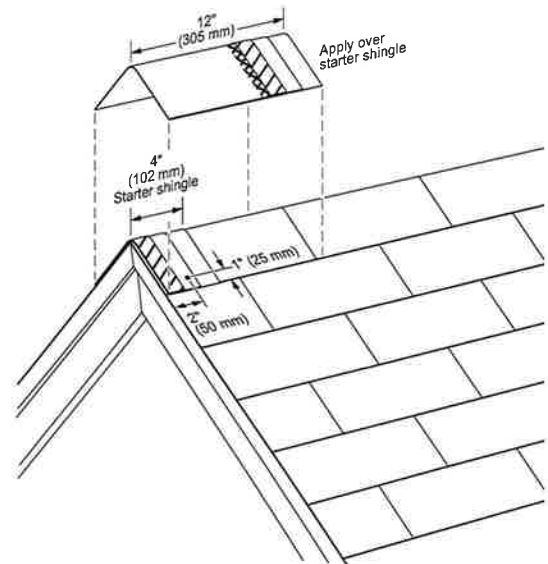
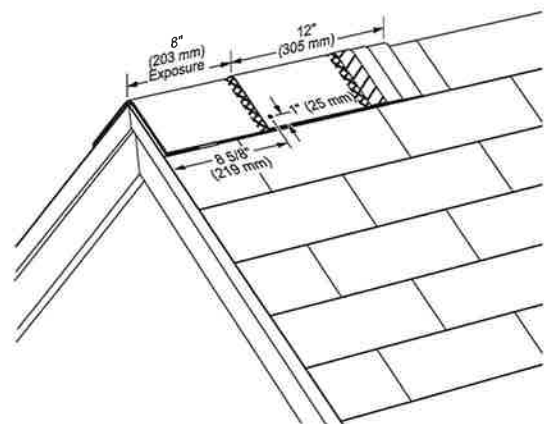

Figure 12-19: Apply a full cap shingle over the starter shingle.
Figure 12-20: Install cap shingles at an 8" exposure and fasten with one nail on each side as shown.
**NOTE:** Each cap has a laying/alignment notch at the top edge to center the piece on the ridge line, and two notches on each side to indicate the correct exposure and shadow-line placement (Figure 12-19). The side notches of the cap being applied should be aligned with the top edge of the previously applied cap.
For the starter shingle, place fastener 1" in from each side edge and about 2" up from the starter shingle's exposed butt edge, making sure fastener goes 3/4" into the deck or all the way through the deck. (*see Figure 12-19*). For each full Cedar Crest shingle, place fasteners 8-5/8" up from its exposed butt edge and 1" in from each side edge (*see Figure 12-20*).
Apply primary roofing up to hip or ridge on both sides of roof and trim flush. Ensure that the Cedar Crest shingles will adequately cover the top course of the shingles on both sides of the hip or ridge. Prepare a 4" “starter” shingle by cutting off the lower 8" color granule portion of one Cedar Crest shingle. Apply the 4" starter piece with raised overlay edge over the bottom corner of the hip or to either end of the ridge, overhanging the corner or end by approximately 1/2" and bending the starter shingle along its centerline to form into place (see Figure 12-19). Install a nail on each side about 2" up from the starter shingle’s exposed butt edge and 1" in from each side edge of the shingle.
Then apply a full 12" x 12" piece over the starter, bending the shingle along its centerline and forming it into place over the hip or ridge, flush with the bottom and side edges of the starter shingle. Fasten with two nails minimum 1-3/4" long with one nail on each side of shingle 8 5/8" up from the butt edge and 1" in from each side edge (see Figure 12-20).